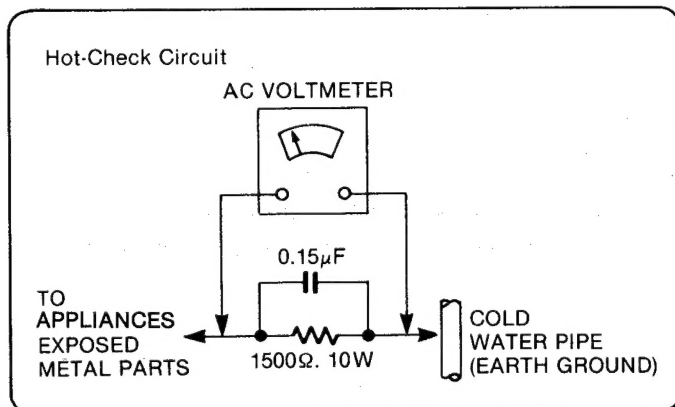

Figure 1
## LEAKAGE CURRENT HOT CHECK (See figure 1.)
2. Connect a  $1.5\text{k}\Omega$ , 10 watts resistor, in parallel with a  $0.15\mu\text{F}$  capacitor, between each exposed metallic part on the set and a good earth ground such as a water pipe, as shown in figure 1.